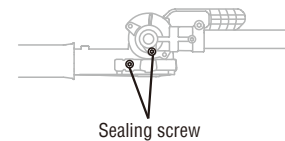
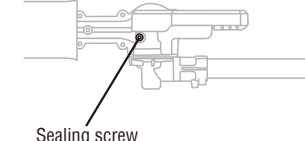

Fig.7A
Fig.7B
**NOTE:** Do not completely fill the transmission gear case. The transmission gears in the gear case need to be lubricated periodically with gear grease. Check the gear case grease level about every 20 hours of operation by removing the sealing screw on the side of the case. There are three sealing screws: one on the side and two on the top. (Fig.7A/Fig.7B) If no grease can be seen, follow the steps below to fill with gear grease up to 3/4 capacity.
1. Lay the hedge trimmer on the ground and make sure the sealing screw to be removed is facing upwards (Fig. 7A /7B).